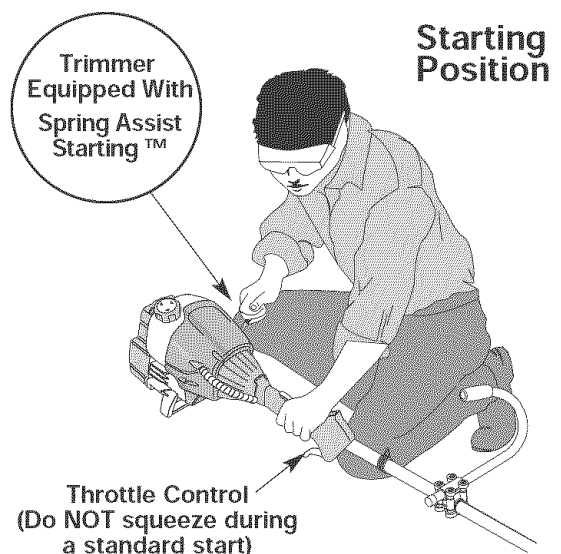

Fig. 8
WARNING: Avoid accidental starting. Make sure you are in the starting position when pulling the starter rope (Fig. 8). To avoid serious injury, the operator and unit must be in a stable position while starting. Make sure that any Add-On item is installed correctly and secure before starting the unit.
4. Crouch in the starting position and **do not squeeze the throttle control** (Fig. 8). Pull the starter rope out with a **controlled and steady motion** until the engine attempts to start. Repeat until the engine starts.